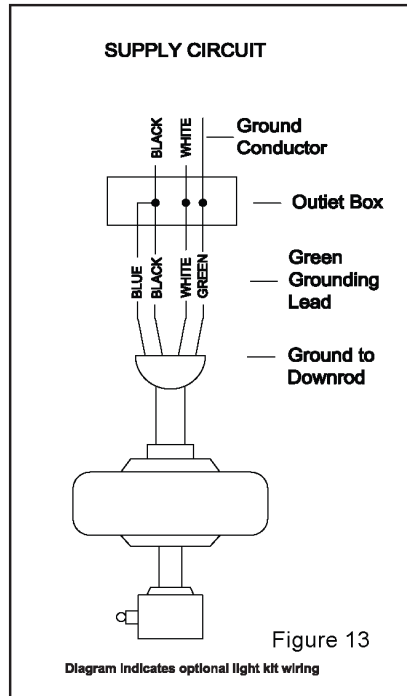

Figure 13
Step 3 Connect the fan light supply (blue) wire and the fan supply (black) wire to the black household supply wire as shown in Figure 13.